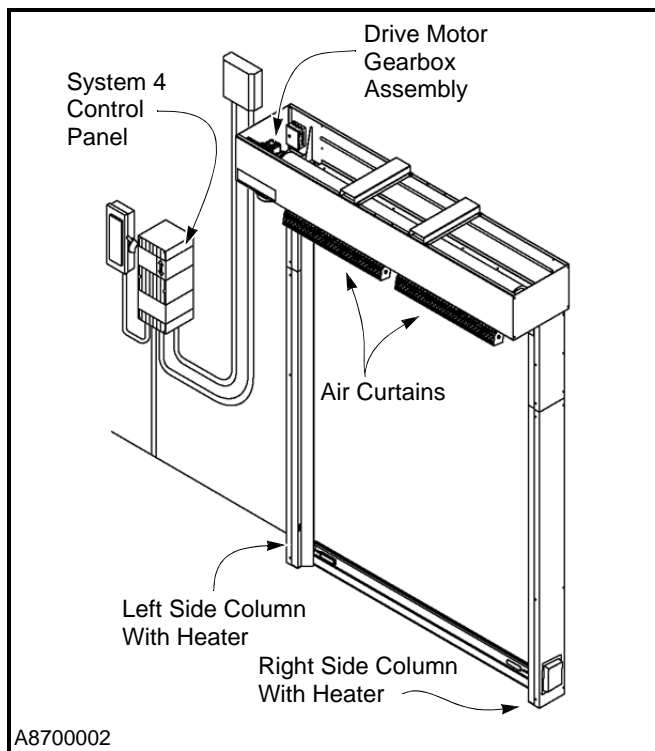

Figure 52
3. To ensure the correct parts are shipped, please include the serial number of your door with the order. The serial number is located inside the left side column, on the drive motor gearbox, or on the door of the System 4 Control Panel. (See Figure 52)